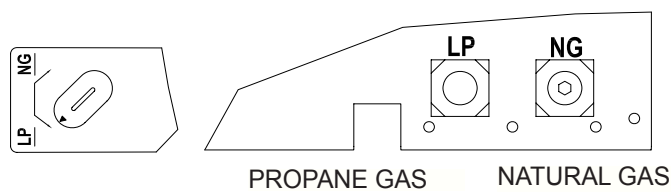

Fig. 14
1. Overturn chassis, See Figure 14.